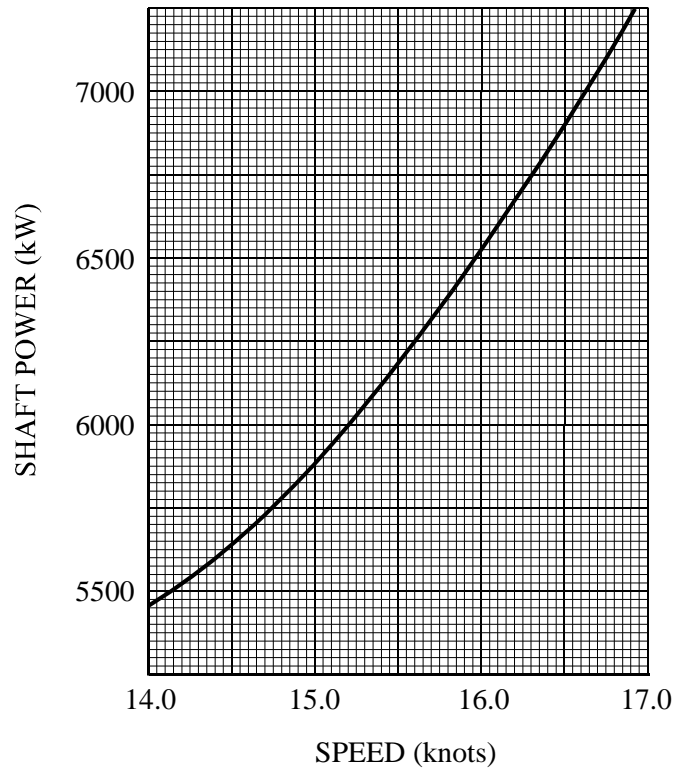

Fig Q5
- (a) Determine the length of the midship compartment. (4)
- (i) draw curves of mass and buoyancy distribution; (8)
- (ii) determine the longitudinal still water bending moment at midships, stating whether it is hogging or sagging. (4)
5. Fig Q5 shows the results of progressive speed trials on a ship at a load displacement of 22350 tonne in sea water of density 1025 kg/m^3 with a wetted surface area of 4860 m^2 .